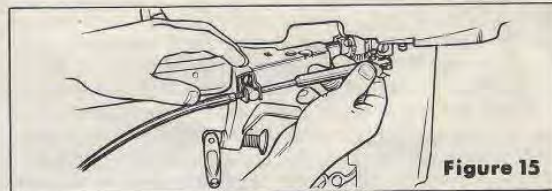

Figure 15
5. Attach speed control fitting by slipping over pin on remote control gear. Turn clip into position to lock. See Figure 15.